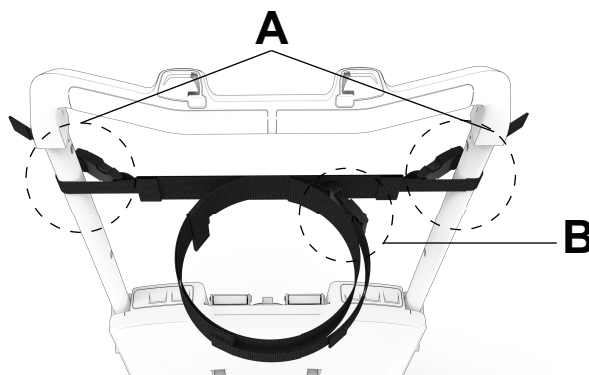

Figure 30 – Connect the side release buckles
1. Wrap the straps around the grab bar and connect the side release buckles (A) (Figure 30).
5. Wrap the straps around the patient's head and connect the side release buckle (B) (Figure 30).